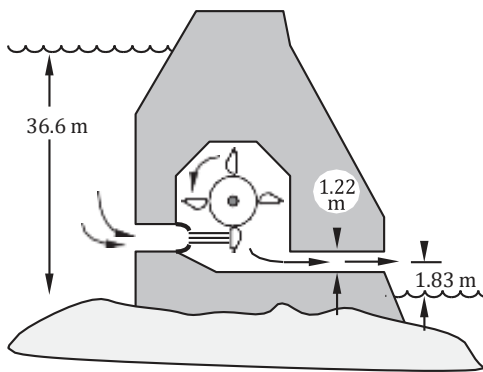

FIGURE P2.39.
39. Figure P2.39 shows a water turbine located in a dam. The volume flow rate through the system is $0.315 \text{ m}^3/\text{s}$. The exit pipe diameter is 1.22 m . Calculate the work done by (or power received from) the water as it flows through the dam. (Compare to the results of the example problem in this chapter.)